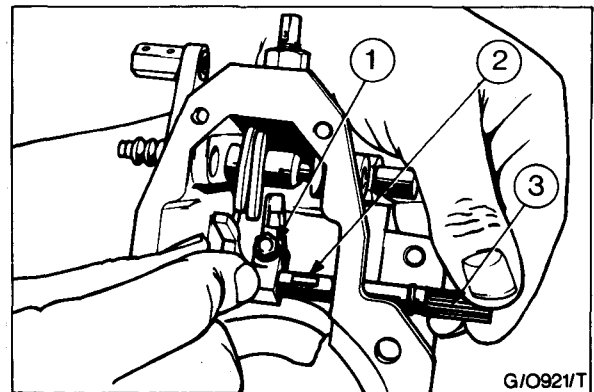

Fig. 46 - Removing the Governor Control Shaft (Dorset)
33. Slacken the governor inner control lever pinch bolt. Slide the lever along the shaft and remove the key (Fig. 46).